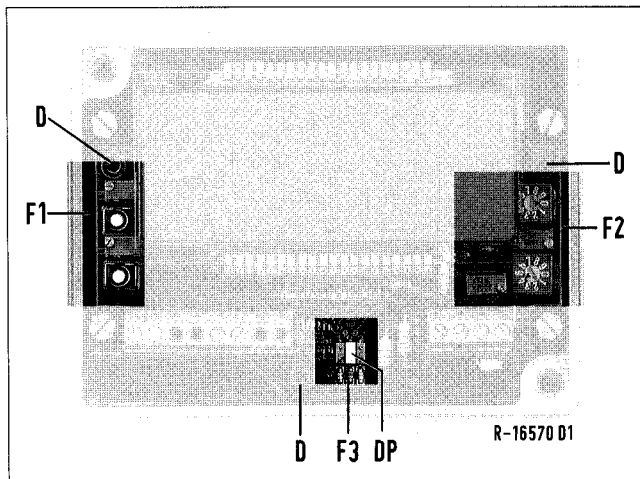

Figure 3 Display card (D = distance screw)
2.1.2 Aligning (see figure 3 and table 1)
2.1.3 Placing the Decimal Point (see figure 3 and table 1)
2.2.1 Setting the Alarm Value (see figure 3 and table 1)
Hysteresis can be set separately for every alarm value. Plug jumpers for hysteresis changes are provided on the input card. This card can be accessed after loosening the three distance screws (D) and lifting the display card (see figure 3).